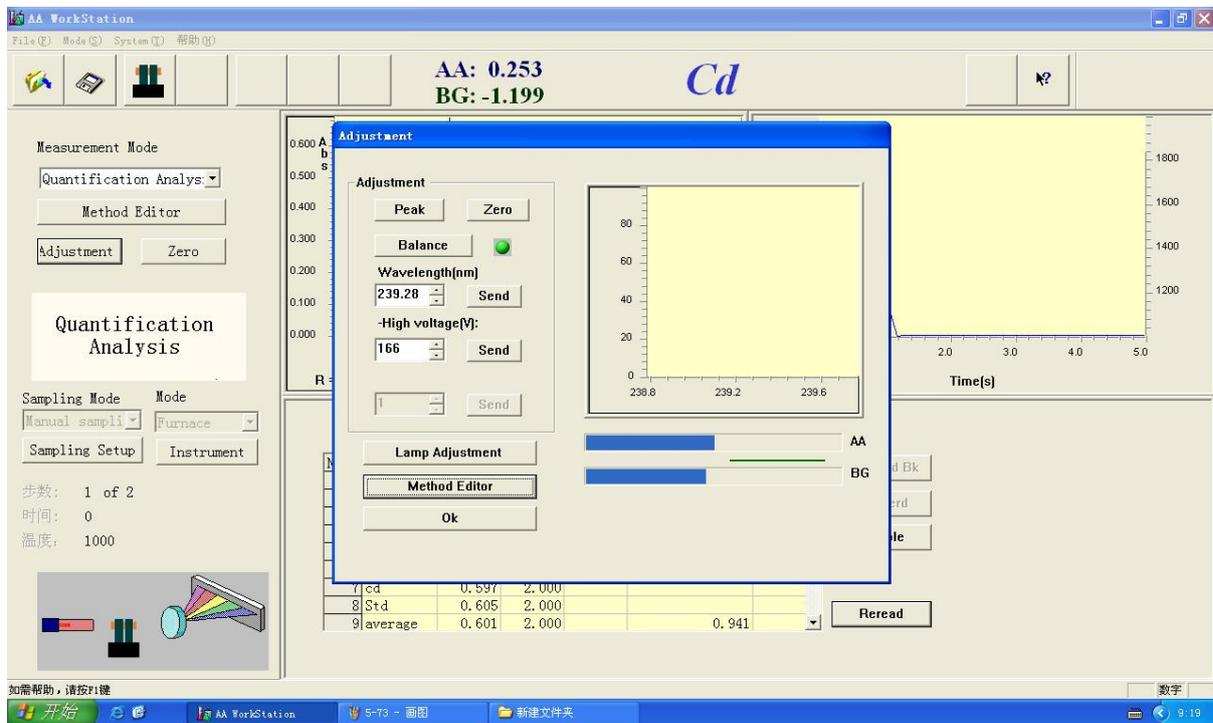

Figure 5-74
1. Take lamp Cd as an example, please first align lamps when you select the "AA-BG Ab" on the "Signal Mode". After this press "Balance" to balance between the euterium lamp and element lamp, Figure 5-74